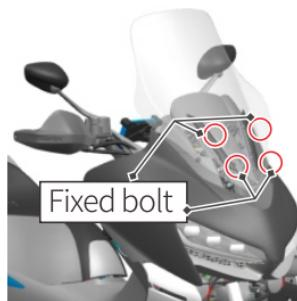

Figure 1
1. First, raise the windshield to the highest position, then turn off the vehicle power, and remove the windshield.(Fig 1:The red circle is the fixed bolt)